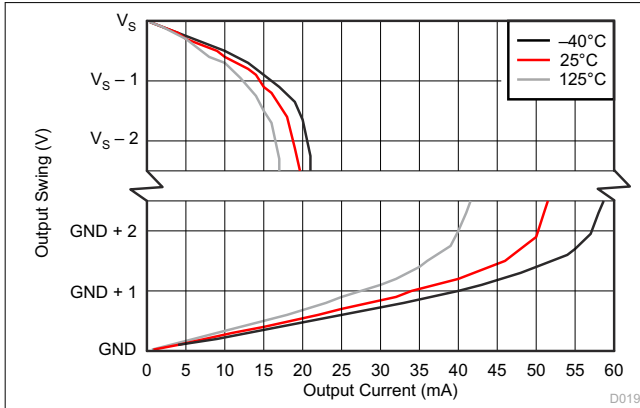

图 7-19. Output Voltage Swing vs. Output Current
(1) RTI = referred-to-input.
(2) Offset voltage is obtained by linear extrapolation to  $V_{SENSE} = 0\text{ V}$  with  $V_{SENSE} = 10\%$  to  $90\%$  of full-scale-range.
(3) See Fig 7-19.
(4) Swing specifications are tested with an overdriven input condition.